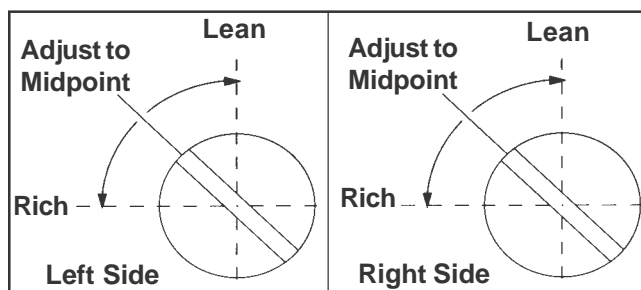

Figure 5-6. Optimum Low Idle Fuel Settings.
- a. Turn one of the low idle fuel adjusting needles out (counterclockwise) from the preliminary setting until the engine speed decreases (rich). Note the position of the needle. Now turn the adjusting needle in (clockwise). The engine speed may increase, then it will decrease as the needle is turned in (lean). Note the position of the needle. Set the adjusting needle midway between the rich and lean settings. See Figure 5-6.